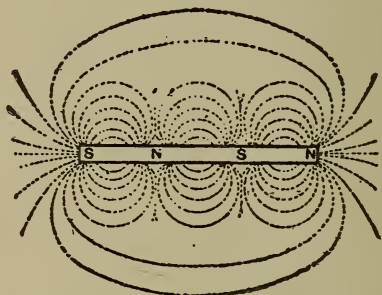

Fig. 70. A Magnet with Consequent Poles.
*Answer.* In long magnets extra poles may be found besides the poles at the ends. These extra poles always come in pairs. Such a magnet is shown in Fig. 70.